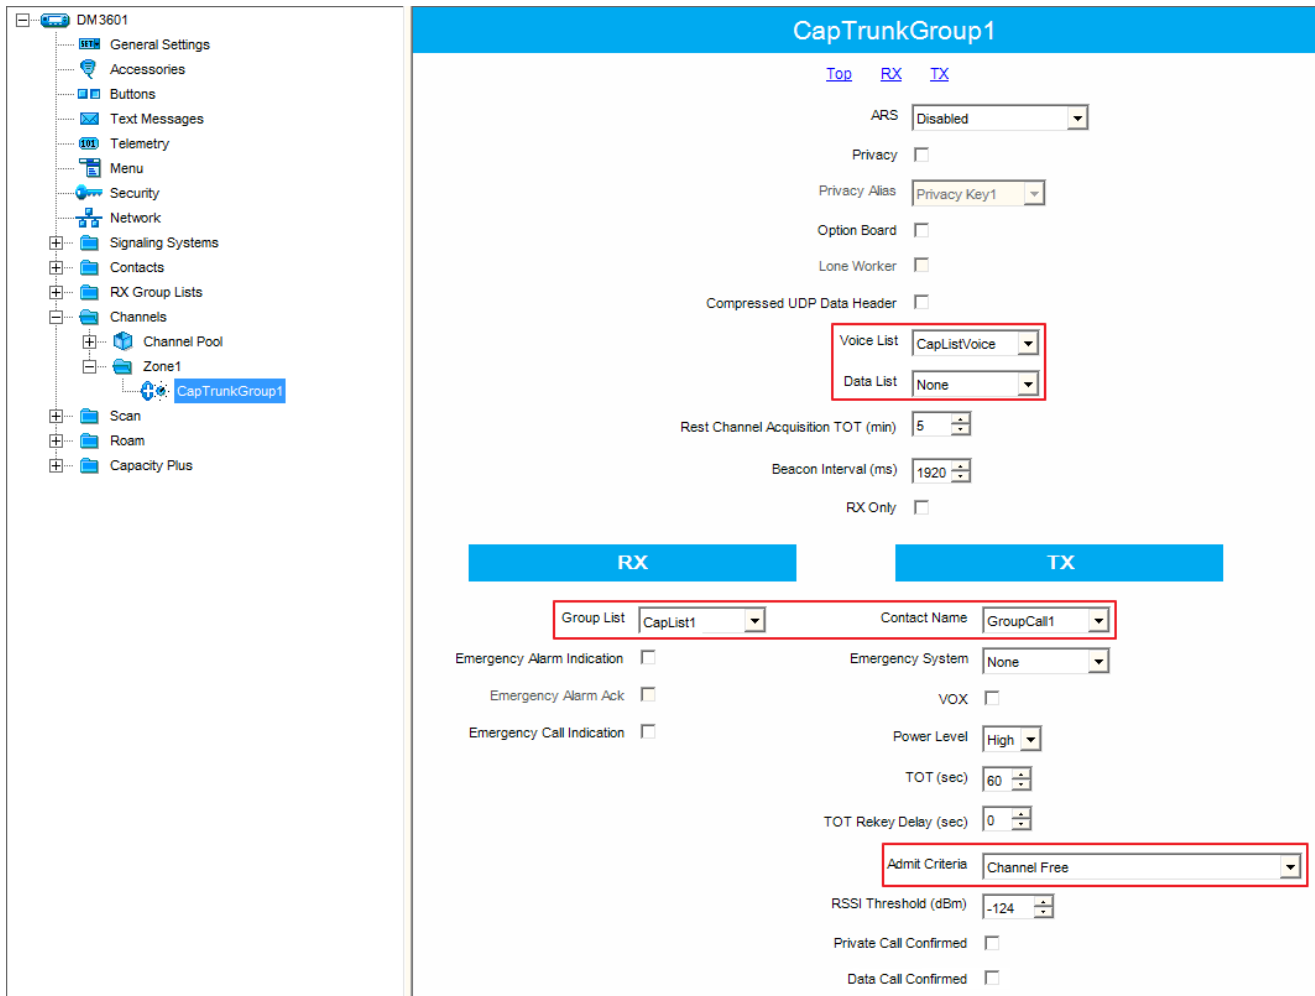

Fig. 17 - Setting parameters for GroupCall1 channel
4. Add **Capacity Plus Voice Channel** for Master repeater to **Channel Pool**. Set frequency pair of the trunk repeater (Fig. 17).